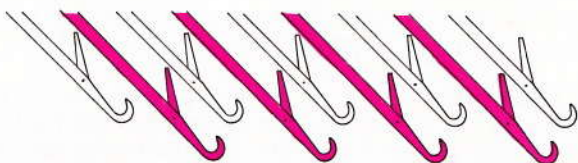

Fig. 64
1. Using alternate needle selection bar bring every alternate needle to B position (fig. 64). Tension slide on 3.